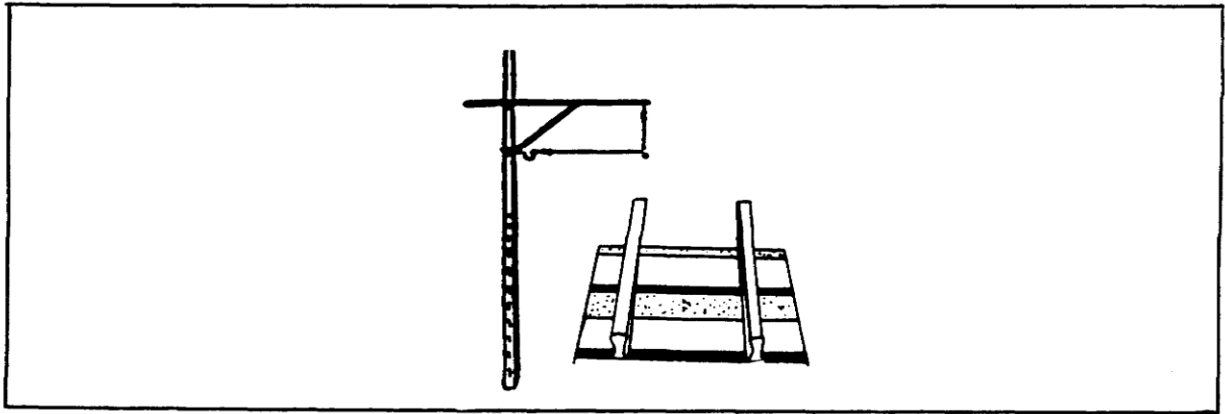

Figure 1-21. Overhead Conductor.
a. Overhead electric conductor system. Electricity is conducted in cables which are held by poles or by bridge-type supports. This is the most universally used system, the current being carried by cables suspended over the rail track. Spring-loaded "pantographs" (sometimes called "tram poles") on the locomotive pick up the current and return it via the rail line. The IA may not be able to see the overhead cables on the imagery, but the appearance of evenly spaced poles and supports for overhead cables should be discernible (Figure 1-21).